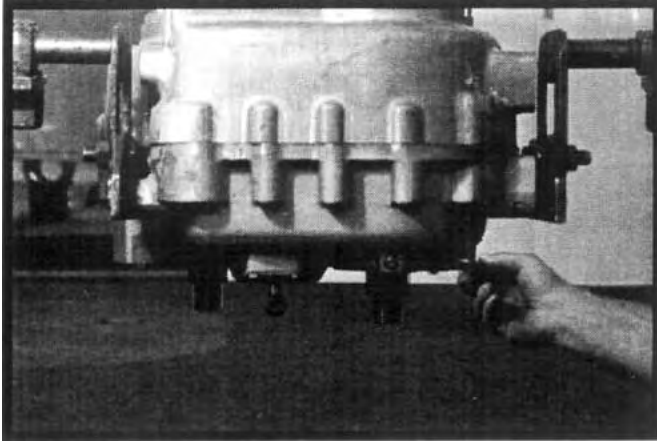

Figure 4.4
5. Remove the (4) cap screws securing the two remaining shift cylinder caps (transfer case rear face). Lift off the cylinders and caps.
7. If the unit is equipped with a lubrication pump, remove the (4) cap screws securing the pump assembly. Lift off the pump assembly and gasket. Discard the gasket. Remove the pump assembly by lifting from the shaft.
8. If the transfer case is equipped with a power take-off, remove the (6) larger (5/8" hex) cap screws and washers securing the power take-off unit to the transfer case housing. Lift the power take-off unit clear as an assembly.
10. **Be sure the rear face of the transfer case is upward and that the unit is attached to the holding fixture by its front case half only.** Remove the (23) 12-point cap screws and washers. See Figure 4.4.